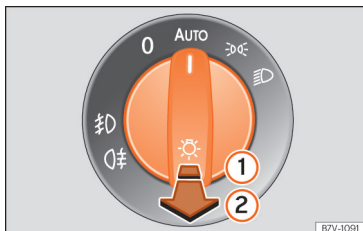

Fig. 115 Dash panel: lights control.
- **Turning on the front fog lights ⚠ :** pull the light switch out from its first click position \ggg Fig. 115 ①, from positions ⚠ , ⚠ or **AUTO**.
- **Turning on the rear fog light ⚠ :** pull the light switch fully out ② from position ⚠ , ⚠ or **AUTO**.